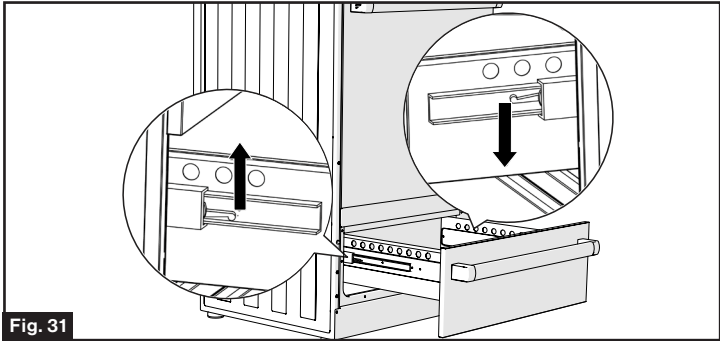

Fig. 31
1. Lift the left small hook upward, at the same time, push the right small hook downward. (Fig. 31)